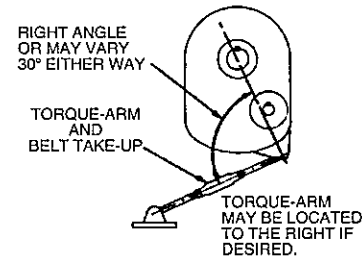

Fig. 4
7. Install TORQUE-ARM fulcrum on a rigid support so that the TORQUE-ARM will be approximately at right angles to the center line through the driven shaft and the TORQUE-ARM anchor screw (see Figure 4). Make sure that there is sufficient take-up in the turnbuckle for belt tension adjustment when using V-belt drive.